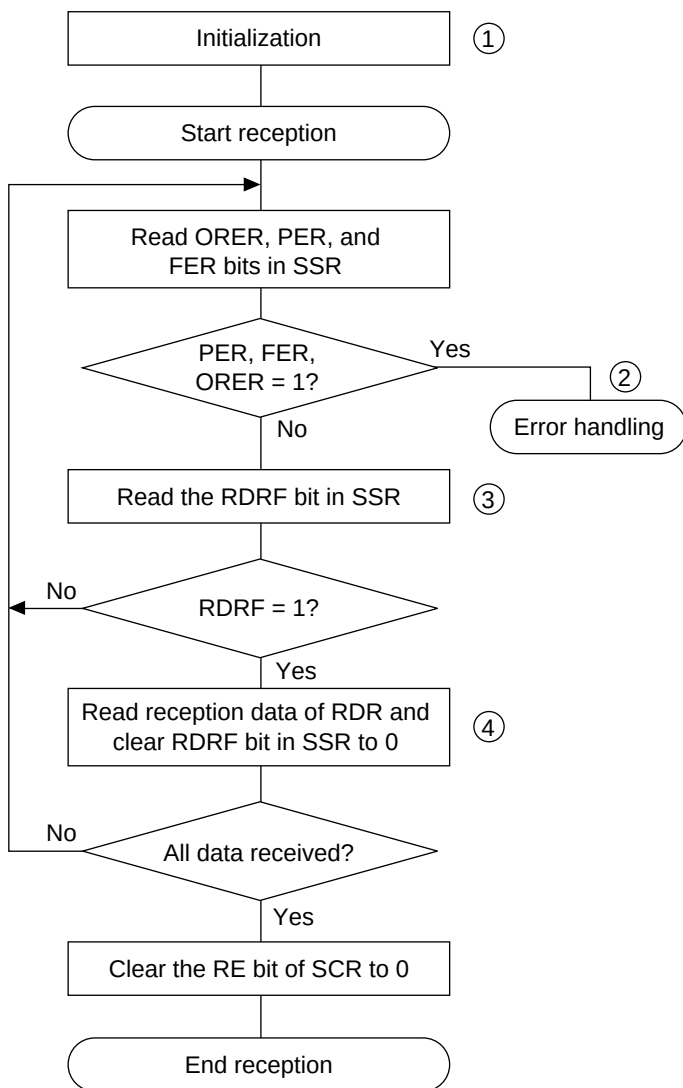

**Figure 14.7 Sample Flowchart for Receiving Serial Data (1)**
**Receiving Serial Data (Asynchronous Mode):** Figures 14.7 and 14.8 show a sample flowchart for receiving serial data. The procedure is as follows (the steps correspond to the numbers in the flowchart).